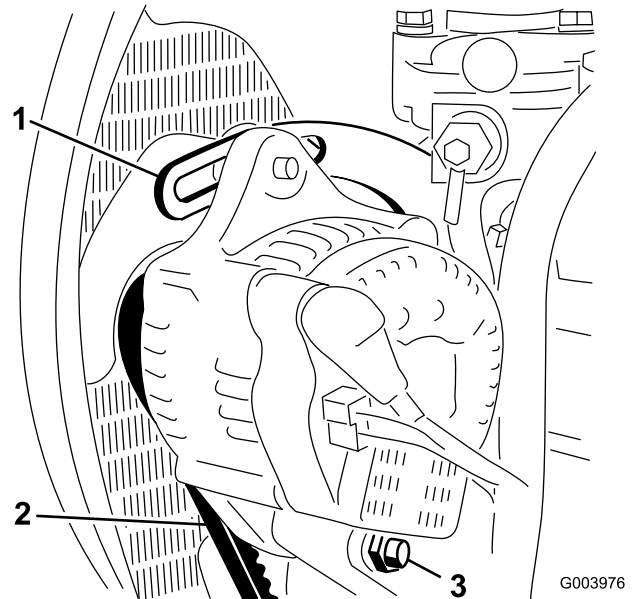

Figure 54
2. Check the tension of the alternator belt by depressing it (Figure 54) midway between the alternator and the crankshaft pulleys with 22 lb (10 kg) of force.
3. Loosen the bolt securing the brace to the engine (Figure 54), the bolt securing the alternator to the brace and the pivot bolt.